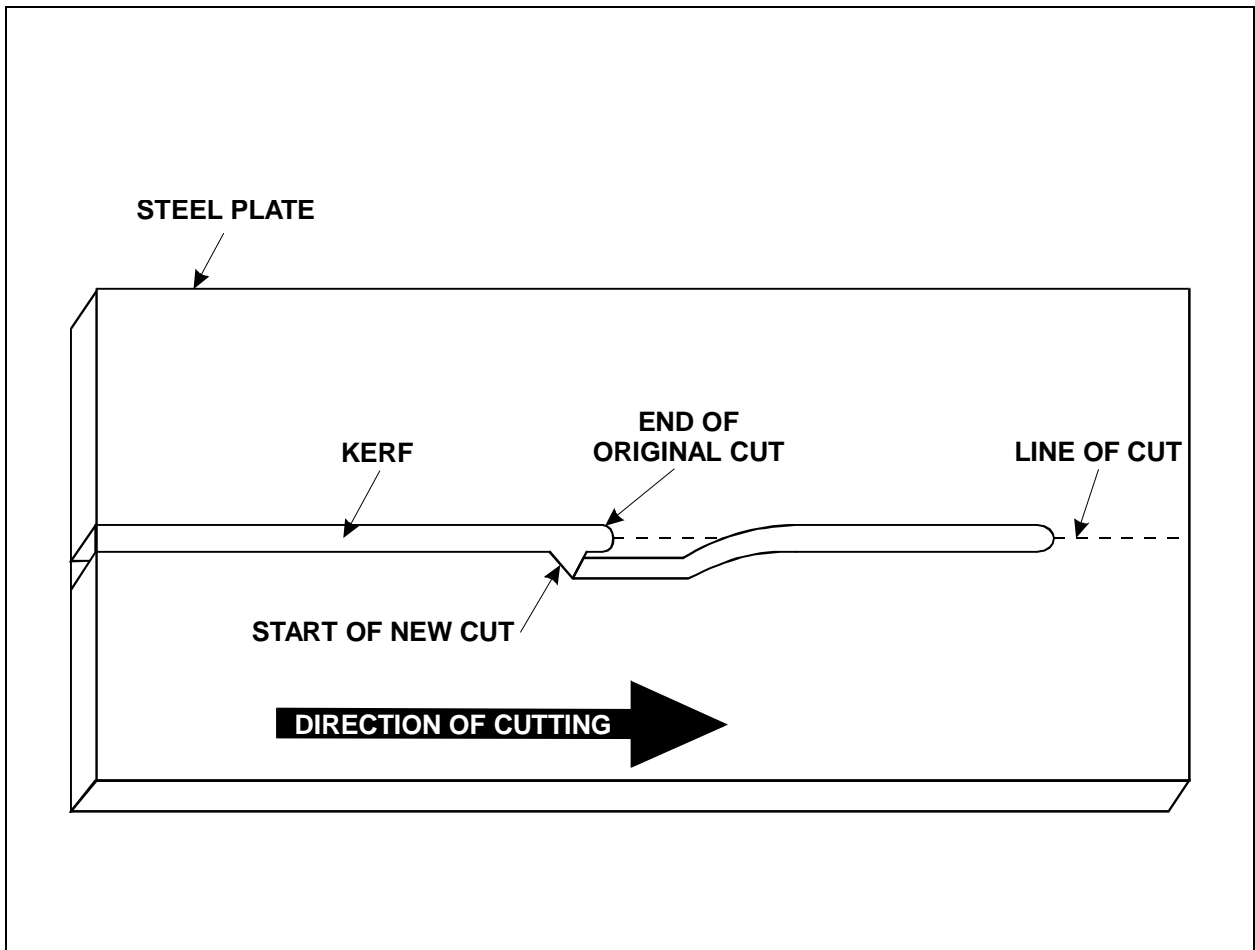

Figure E-7. Restarting the Cut.
**E-4.8.3 Advancing the cut.** The cut is advanced by moving the torch at a steady, uniform rate of speed along the line of cut, fast enough to keep the cut going, but slow enough to cut completely through the metal. When the torch is advanced too slowly, the steel will cool below the ignition temperature and the cutting action will stop. The diver has “lost the cut” and will have to restart the cutting action. When the torch is advanced too rapidly, again the cut will not be completely through. The skipped spots (hangers) will be very hard to cut out. When the cut has been lost, it may be restarted by going back 1/2 to 3/4 inch and start a new kerf to one side of the old cut. As shown in Figure E-7, the purpose of this is to be sure that the cut is complete.